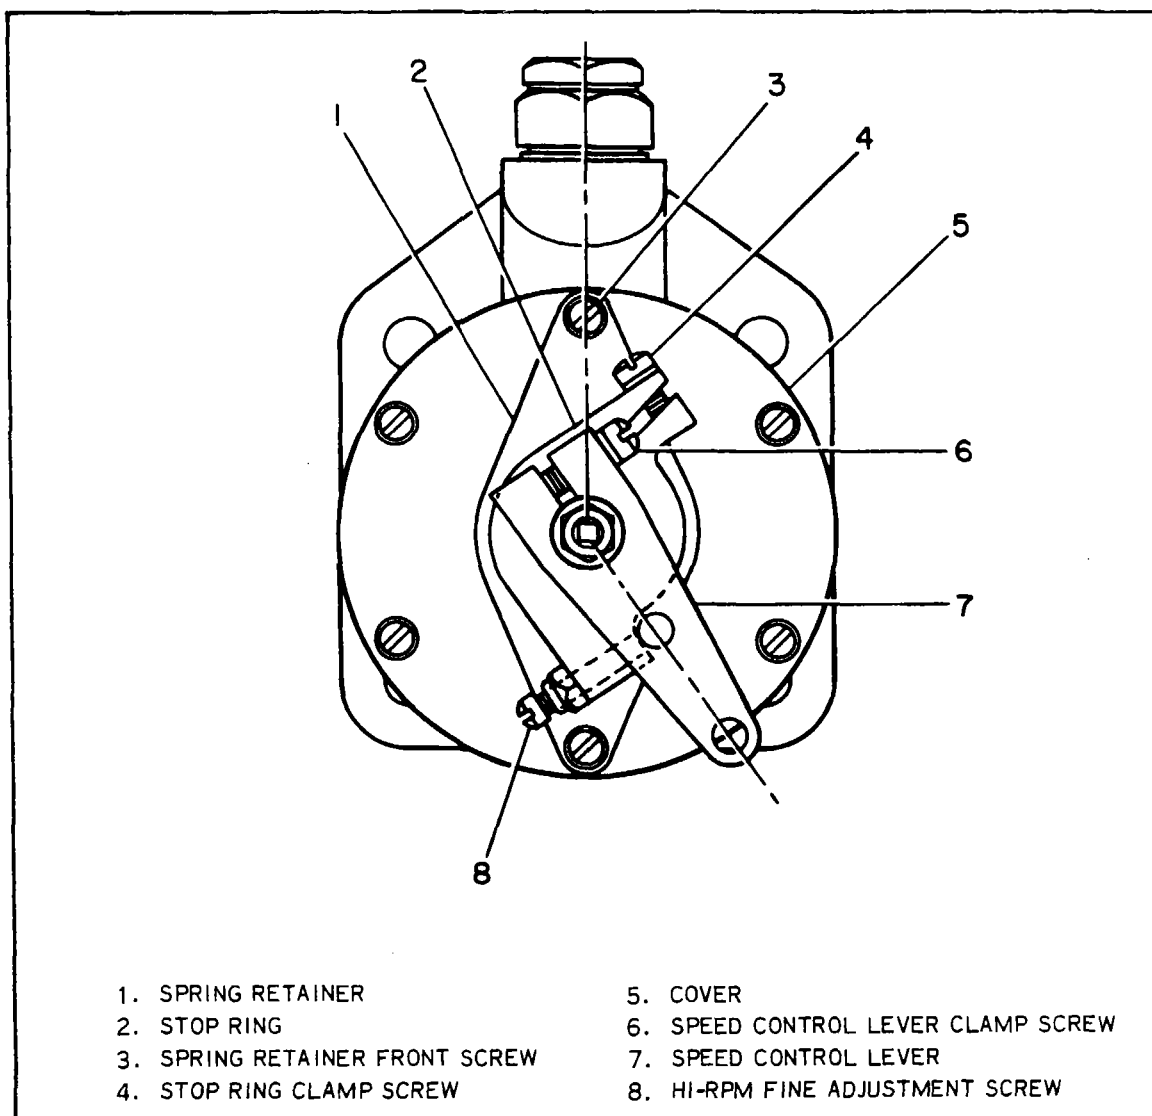

Figure 8-7. Woodward Propeller Governor Adjustment Points:
- b. If not already done by the vendor, release the stop ring clamp screw (4, Figure 8-7) and rotate the stop ring (2) about the serrations of the governor cover (5) to align the projection, through which the hi-rpm fine adjustment screw (8) is threaded, with the center line of the spring retainer front screw (3). Position the surface from which the threaded portion of the adjustment screw projects, with the spring retainer front screw. Tighten the clamp screw.
- e. Observe engine speed. Adjust the governor speed by means of the fine adjustment screw for 2700 rpm. To do this release the speed control lever clamp screw (4) and move the lever relative to the cover serrations. One serration movement in a clockwise direction produces a decrease in speed of 100 rpm; one serration counter-clockwise increases the speed 100 rpm. One revolution of the hi-rpm fine adjustment screw in a clockwise direction decreases engine speed 25 rpm, counter-clockwise rotation increases engine